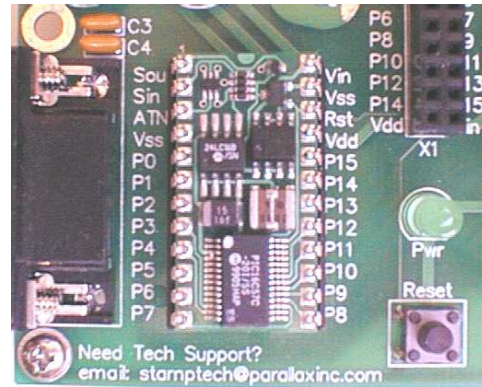

Figure 1.13: Javelin inserted into its socket on the BOE.
Figure 1.13 shows the Javelin mounted in its socket on the JSDB. The Javelin has a half-circle printed in the center of its top edge. This is meant to serve as the reference notch common on many integrated circuits. When placing the Javelin in its socket on the JSDB, make sure this half-circle is closest to the Sout and Vin labels. As a second check, make sure the largest black chip with the label SX48 is at the bottom, between the P7 and P8 labels.
- ❑ If your Javelin and JSDB were packaged separately, plug the Javelin into its socket on the JSDB as shown in Figure 1.13. Make sure the pins on the Javelin line up with the holes in the socket, then press down firmly on the Javelin with your thumb. The Javelin's pins should sink into socket holes by about a quarter-inch.